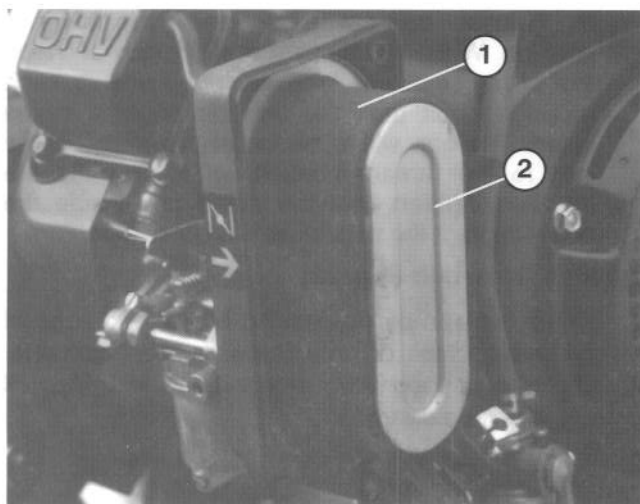

Figure 27
3. If foam element is dirty, remove it from paper element (Fig. 27). Clean thoroughly.